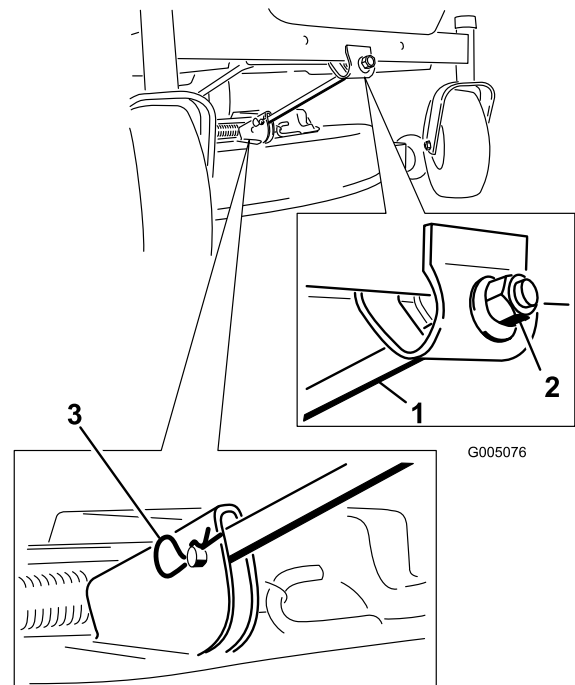

Figure 54
4. Remove the hairpin cotter and clevis pin from the front support rod (Figure 54). Carefully lower the front of the cutter deck to the ground.
- 6. Attach the front support rod to the cutter deck with the clevis pin and hairpin cotter (Figure 54).